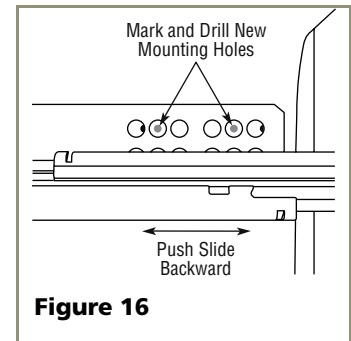

Figure 16
3. Mark new drilling holes using different sets of mounting holes on the slide. See **Figure 16**.